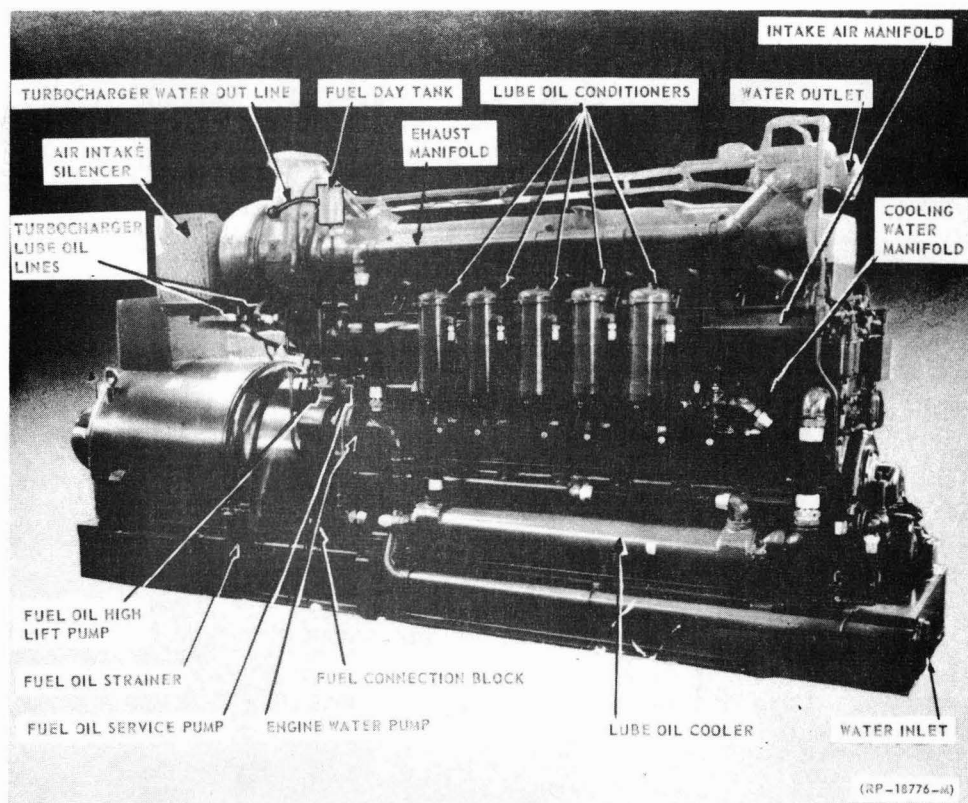

FIG. 1 KS-15777 ENGINE-ALTERNATOR - MANIFOLD SIDE
1.51 The KS-15777 engine-alternator is pictured in Figures 1, 2 and 3 and control cabinets in Figures 4 and 5.